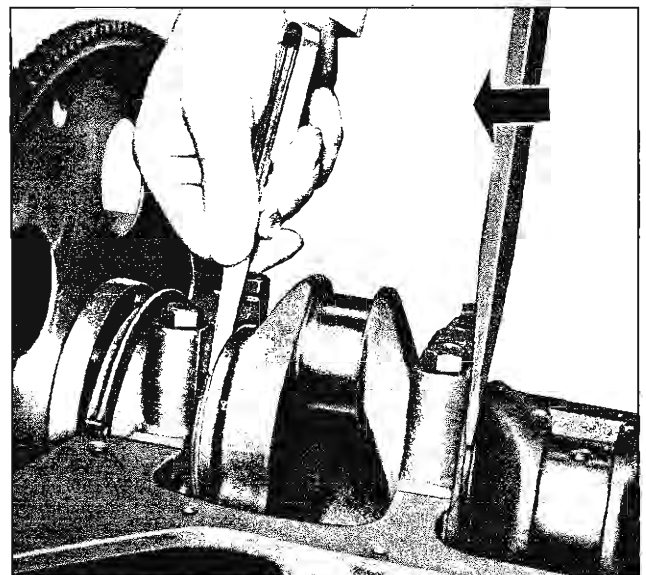

Fig. 72—Checking Crankshaft End Play
5. Check crankshaft end play by forcing the crankshaft to its extreme front position. Check at the front side of the rear main bearing with a feeler gauge (fig. 72). Clearance should be from .002" to .006" with a new bearing. If greater than a maximum .009" clearance, the rear main bearing must be replaced.